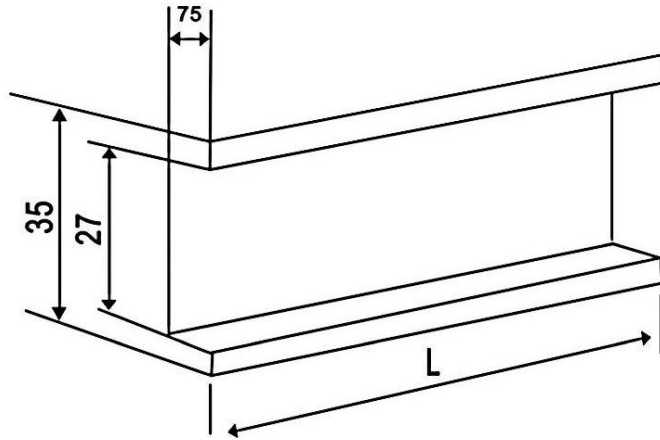

Figure 2 Installation Rail Dimensions (TH35-7.5)
The overall dimensions and installation dimensions of the circuit breaker are shown in Figure 1, Figure 2, and Table 2.
4.6 The circuit breaker is installed using standard guide rails, and the dimensions of the installation guide rails are shown in Figure 2.